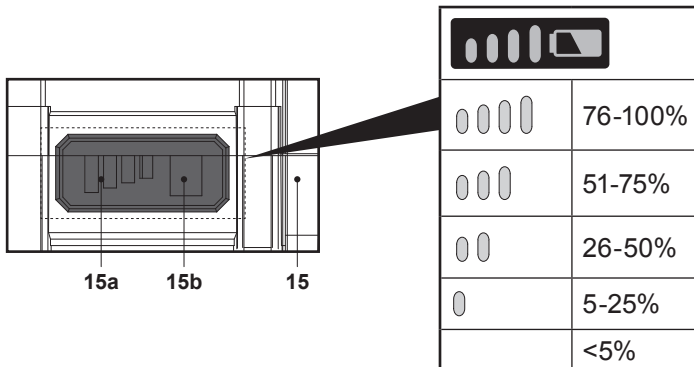

Fig. 4
The battery pack (15) is equipped with the battery capacity indicators (15a) which are used to give an indication of the battery pack's remaining capacity. Press the battery capacity button (15b) to check battery capacity (Fig. 4). The LEDs will stay lit for approximately 5 seconds.